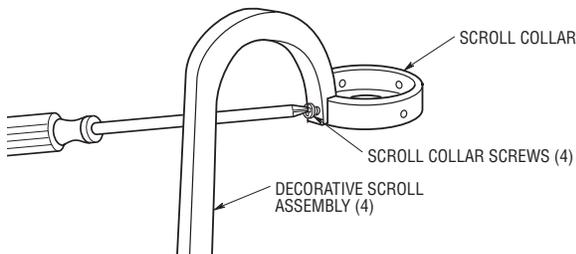

Figure 18
- 2. Remove the four screws in the scroll collar and save for the following procedure. Assemble the decorative scroll assembly to the scroll collar using the previously removed screw (Figure 18). Assemble the remaining three decorative scroll assemblies in the same manner.